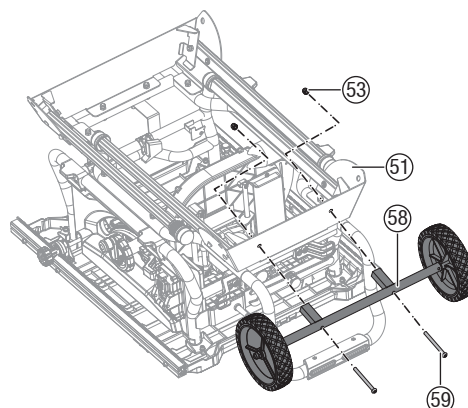

Fig. 1d
- Attach the wheel assembly (58) to the stand assembly (51) with two flat round head screws M8 x 100 (59) and two lock nut M8 (53). (Fig. 1d)